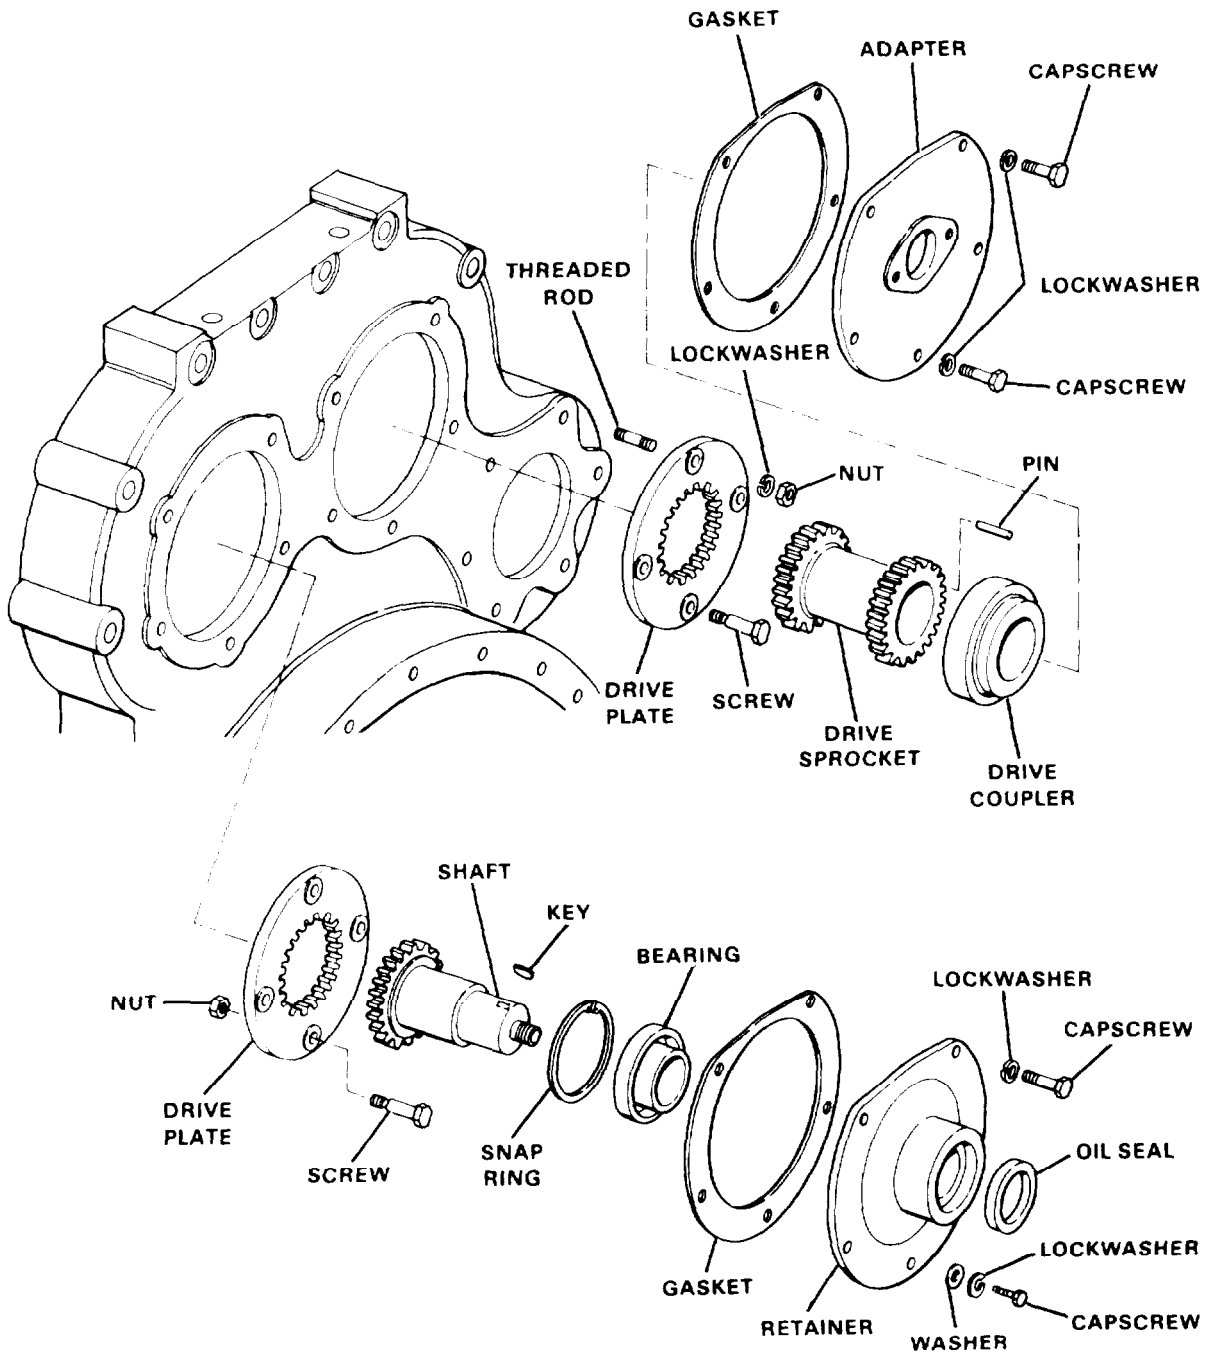

Figure 11B-180. Accessory Drives
7. Remove the snap ring and ball bearing from the accessory drive shaft retainer as shown in Figure 11B-180 on page 11B-118.